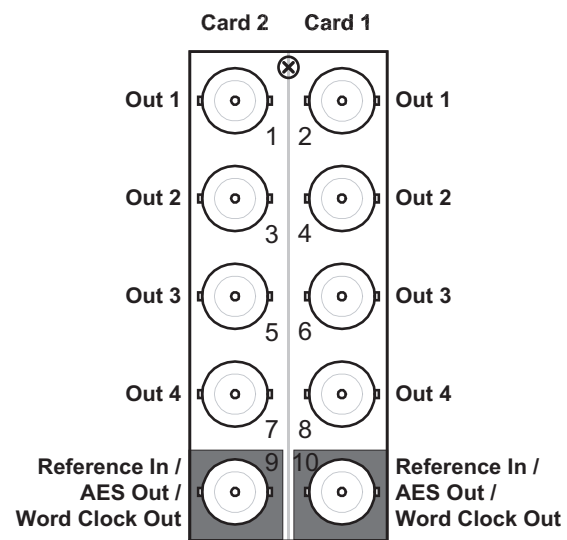

Figure 8 Cable Connections for the 8320AR-031 Rear Module
- **8320AR-031** Split Rear Module — Each rear module occupies two slots and accommodates two cards. This rear module provides four video outputs per card. Depending on your configuration, an AES or Word Clock output is available on the bottom BNC. (**Figure 8**)